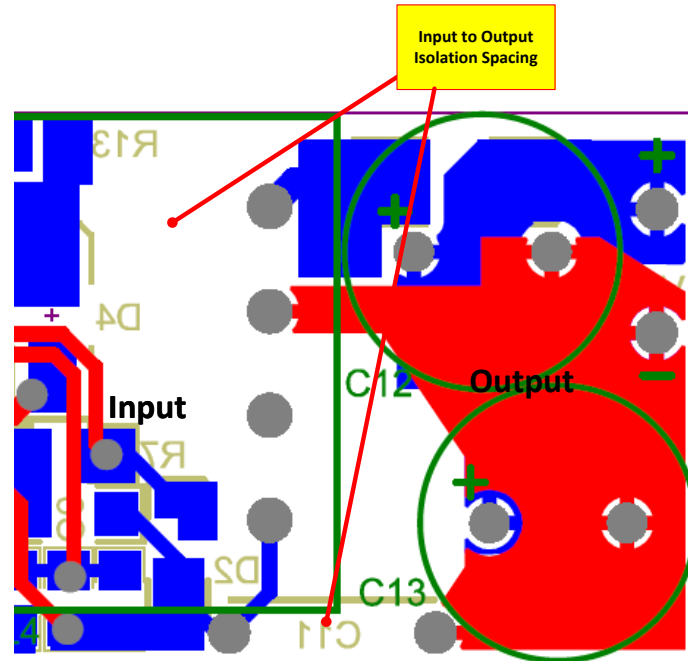

Figure 21: PCB Layout Guidelines
- 9) See Figure 21 for PCB layout guidelines around the IRS2983.